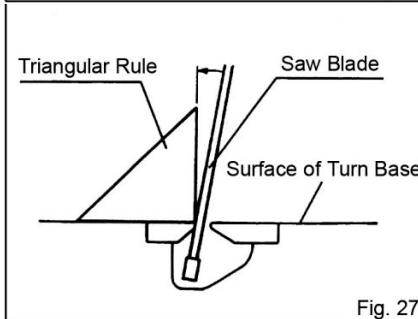

Fig. 27
Carefully square the side of the blade with the top surface of the turn base using the triangular rule, try square, etc. by turning the adjusting bolt (A) counterclockwise. Then tighten the hex nut to secure the adjusting bolt (A) and tighten the lever securely. (**Fig. 27**)